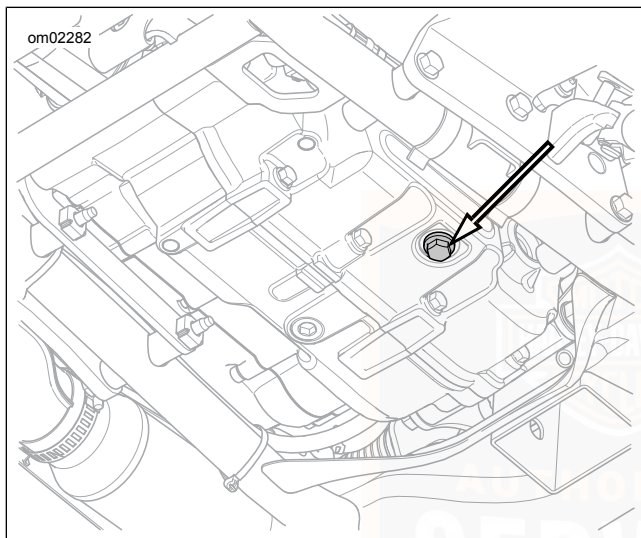

Figure 30. Engine Oil Drain Plug
3. See Figure 30. Remove the engine oil drain plug. Discard O-ring.